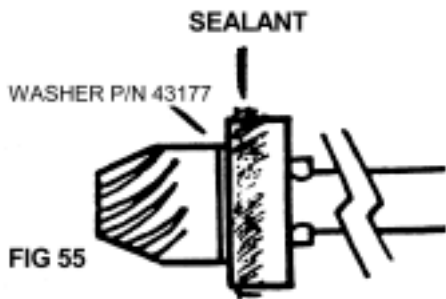

FIG 55
3. Fit new pinion with fresh loctite on thread, making sure it is tight up to spacer washer #43229, (Fig. 55) and washer does not move.
1. Clean and dry bearing. Place oil resistant gasket sealant (e.g. Fullerprene 303) around bearing as in Fig. 55.